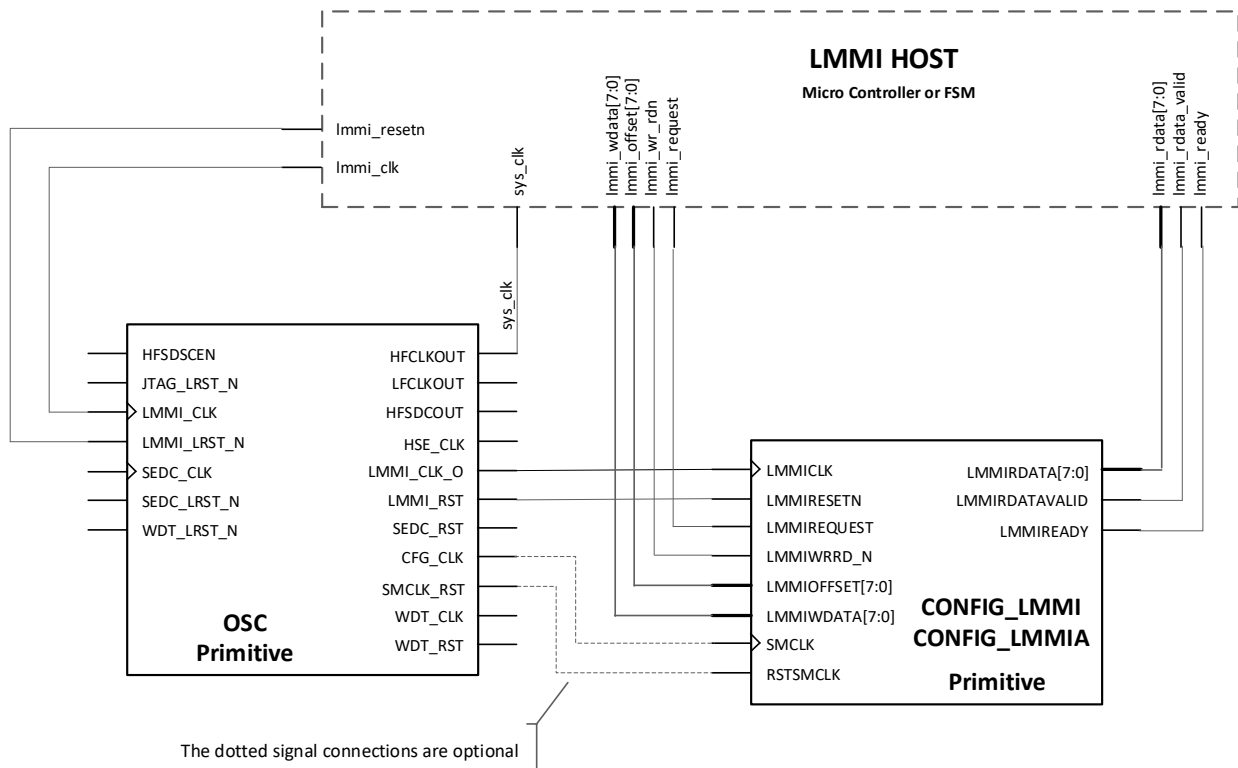

Figure D. 3. CONFIG_LMMI(A) Primitive and OSC Primitive Connection
D.3. CONFIG_LMMI(A) Primitive and OSC Primitive Connection and Instantiation
In user design, the CONFIG_LMMI(A) primitive and OSC primitive should be connect as show in Figure D. 3.